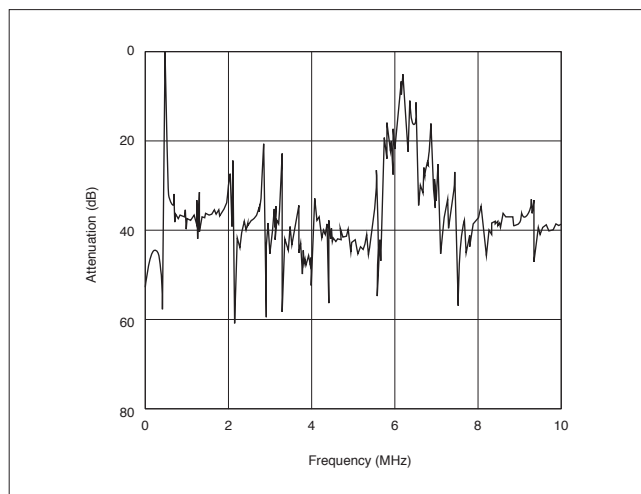
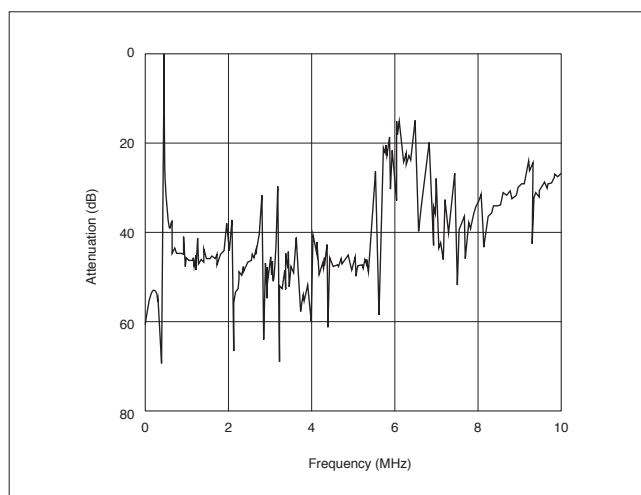

Fig. 8-2 Spurious Response with 450KHz ceramic filter
Fig. 8-3 Spurious Response with 450KHz ceramic filter+IFT
- (1) It is recommended to use supplementary IFT together with CERAFIL® for suppression of spurious.
- (2) Arranging 2 or more CERAFIL® for mutual cancellation of spurious.
- (3) To provide low pass or high pass filter of the fixed LC for suppression of spurious.
Among the countermeasures itemized above, the most common approach is method (1). The spurious responses are shown in Fig. 8-2 with only 450KHz ceramic filter and Fig. 8-3 with 450KHz ceramic filter+ IFT. This arrangement for suppression is sufficient.